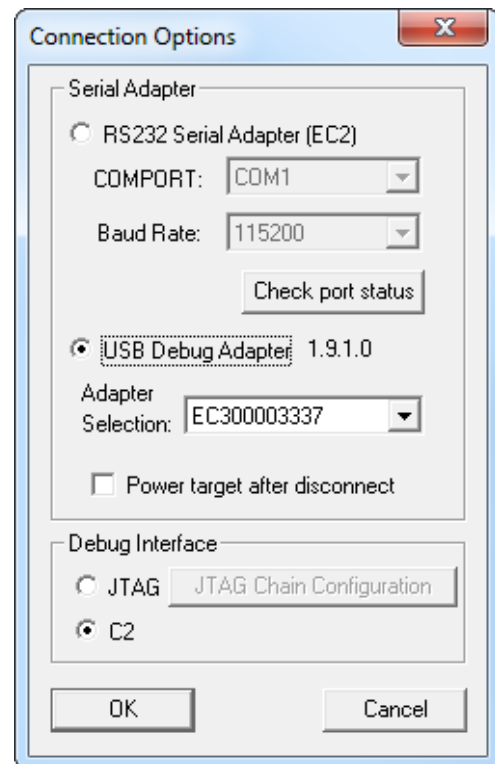

Figure 4. Connection Options
2. Before connecting to the target device, several connection options may need to be set. Open the **Connection Options** window (shown in Figure 4) by selecting **Options**→**Connection Options...** in the IDE menu.